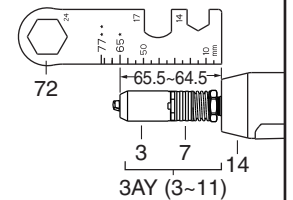

Fig. 5
2. Check for air leaks. If damaged, replace the mini air fittings (31), air hoses (33), and swivel air fitting with on/off slide switch (68).
4. Check the JAW CASE ASSEMBLY DISTANCE that meets the specification 65 ± 0.5 mm (Fig. 5).
5. Carefully check and firmly tighten the jaw case assembly (3AY), working nosepiece (1), head (2), oil screw plug (16), oil cylinder end cap (25), noise silencer lock nut (39), valve end cap (58), air cylinder end cap (65), air inlet end cap (67), swivel air fitting with on/off slide switch (68) before daily operation.
6. Check to empty the spent mandrels. Be sure to fit the spent mandrel container (30) to the oil cylinder end cap (25) firmly.
7. Check to ensure the trigger (42) operation is normal.
7. **Use the wrench 7724 (71) to check and adjust the lock nut (11) to the recommended jaw case assembly distance 65 ± 0.5 mm (Fig. 5).** At the same time, tighten the rear jaw case (7) and the lock nut (11) firmly with the wrench 7724 (71) and wrench 2712 (72). Finally, use the wrench 2712 (72) to fasten the head (2) firmly.
8. Connect the tool to the compressed air supply system. It is suggested to depress the trigger (42) twice to adjust the inner parts of jaw case assembly (3AY) to the normal position, so that the blind rivet mandrel can be inserted into the working nosepiece (1) smoothly.